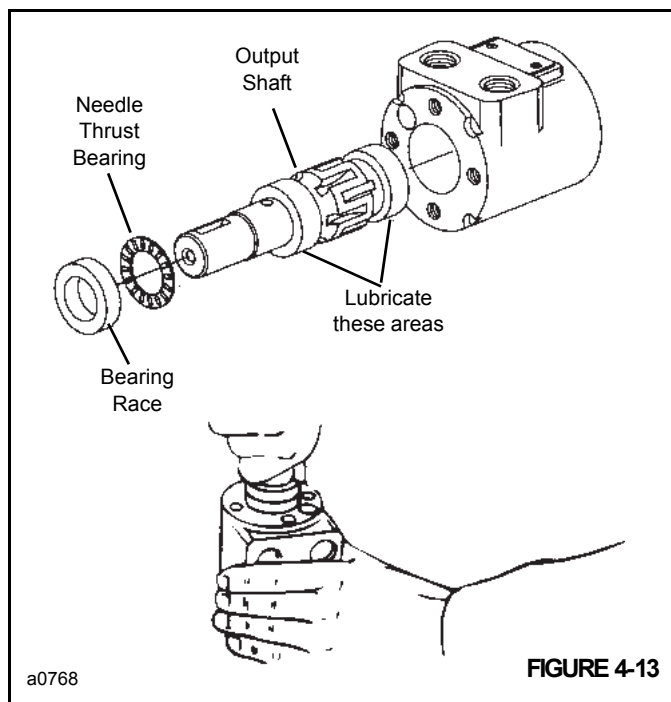

FIGURE 4-13
3. Install needle thrust bearing (8), then bearing race (7) on shaft (9). Pull shaft partially out of housing. Push all three parts in housing (10) together Figure 4-13. The bearing race must rotate freely when in position.